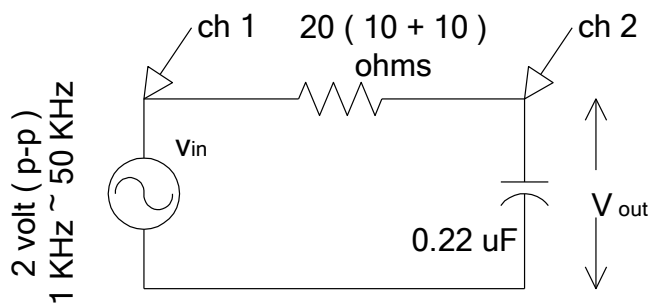

Figure 2 : RC Lowpass Filter
A simple first order RC low pass filter is shown in figure 2. Gain of this filter is given by:
1. Construct the circuit of figure 2. Connect V_{in} to channel 1 and V_{out} to channel 2 of the oscilloscope. Adjust the signal generator to 2 volt (p-p) & 100 Hz.